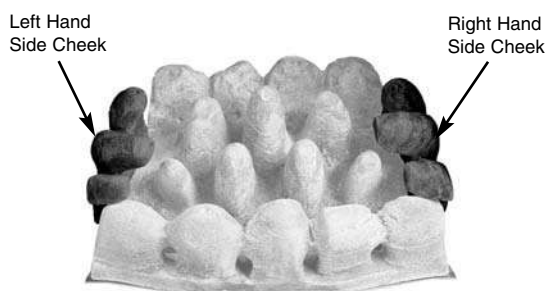

Fig. 23
4. Place the side cheeks into position, making sure they are positioned either side of the fuel bed and the overhang is at the front. The outside edge should be in contact with the radiant box ceramic liner. Ensure that the lower part of the side cheeks sit on the front pebble set and are in front of the rear pebble set (Fig. 23).